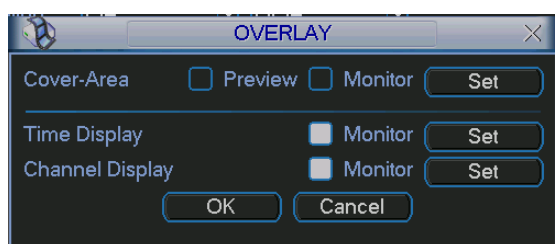

Figure 4-27
- Overlay: Click overlay button, you can see an interface is shown in Figure 4-27.